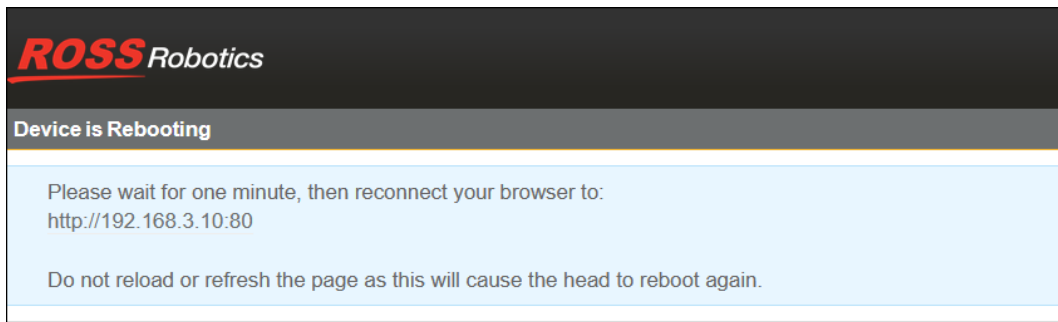

Figure 14 - Device is Rebooting Message
3. If you modified any settings and want to apply them to the head, click the **Save and Reboot** button. The **Device is Rebooting** message appears (**Figure 14**).